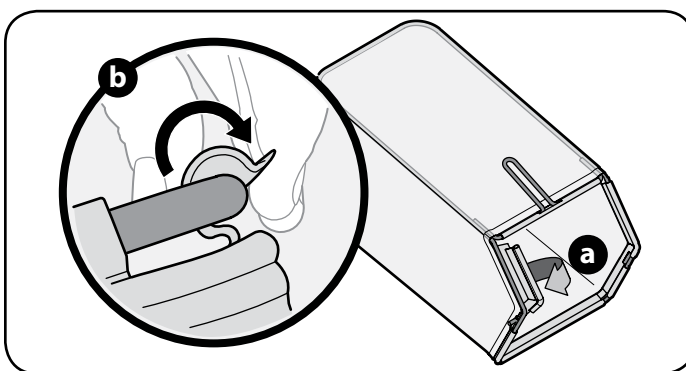

Figure 9
- b. Slip plastic channel of grass bag over hooks on the frame. See Figure 9.